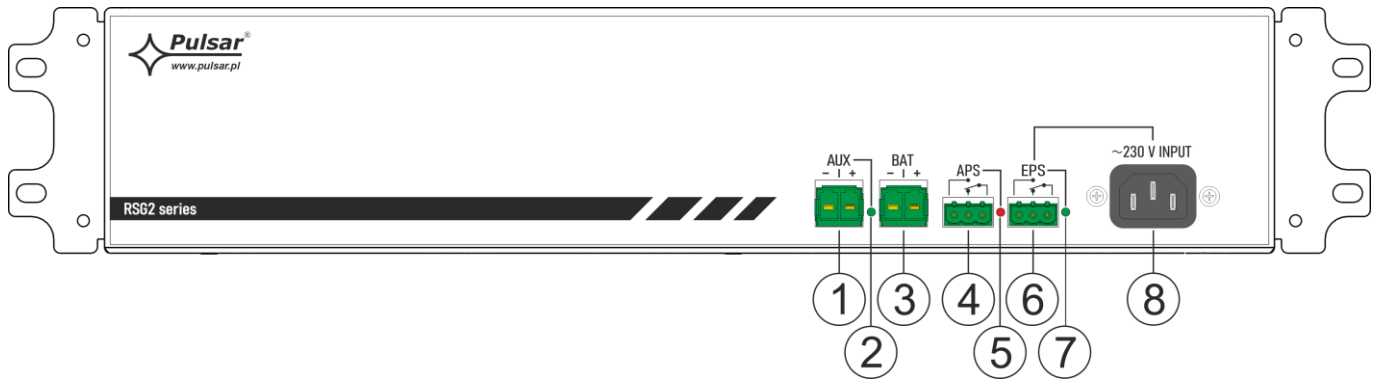

Fig. 2a. Front panel view
Table 2. Elements and connector of PSU (see Fig. 2a, 2b, 2c, 2d).
- a) **cutting off the 230 V current:** the AC LED (Fig. 2a, item 7) will turn off, and the EPS technical output will change its state after approximately 30 s.
- b) **battery disconnection:** the APS LED (Fig. 2a, item 5) will light up, and the APS technical output will change its state after performing the battery test (~5 min).